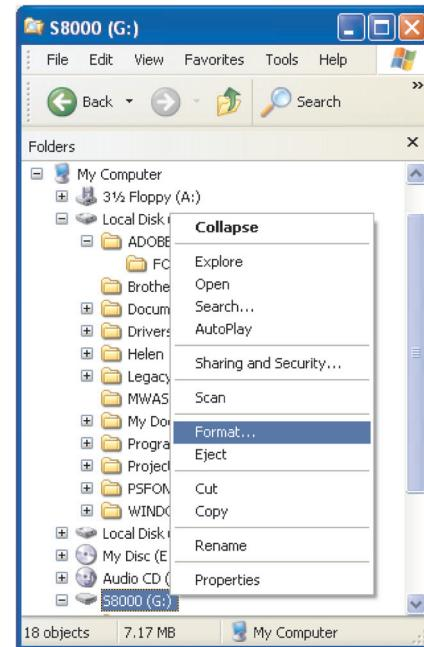

Figure 43      Select Format
2. Right click on the card icon and select **Format** from the pop-up menu (refer to *Figure 43*).